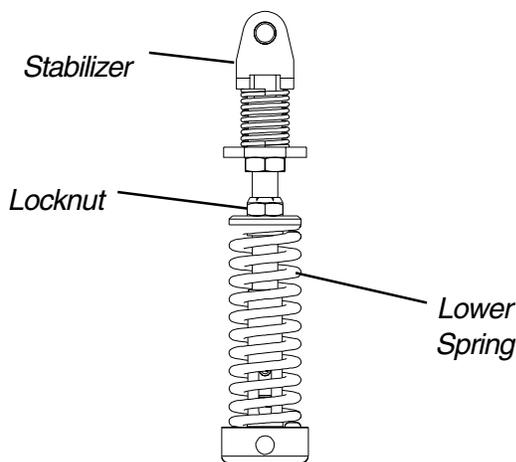

FIGURE 15 - ADJUSTING TYPE C STABILIZER ASSEMBLY FOR USER PREFERENCE
**Adjusting Type C Stabilizer Assembly for User Preference (FIGURE 15)**
1. Rotating the locknut that is located on top of the lower spring provides one (1) of the following: